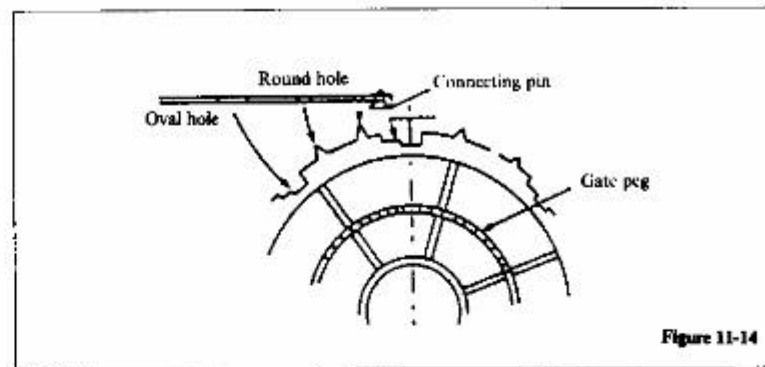

Figure 11-14
- 5.1 Take the belt connecting pin such that it is on the inside and place it on the belt cover (right) groove, fitting onto the rotary encoder as shown in the figure 11-14.